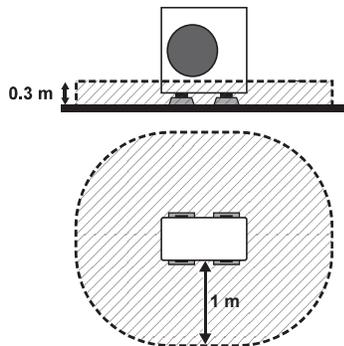

Fig. 3-2
(1) When installed in a location with an open around (Fig. 3-2)